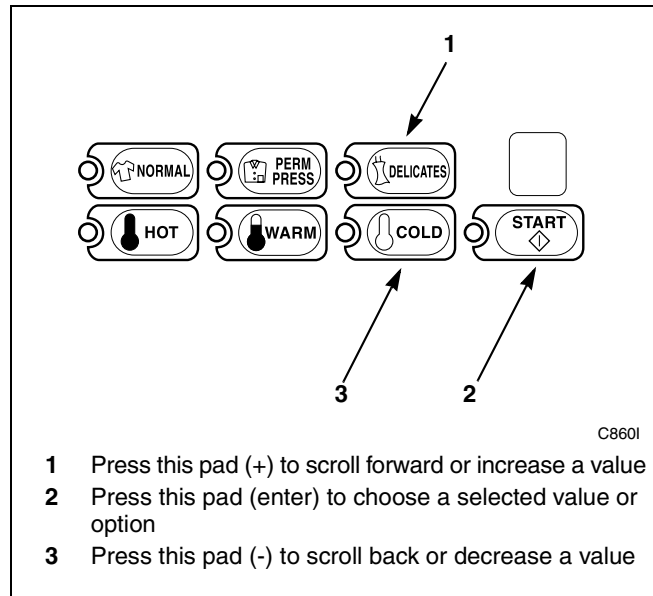

Figure 45
- Press the DELICATES (+) or the COLD (-) keypad to increase or decrease the current number until correct. Refer to *Figure 45*.